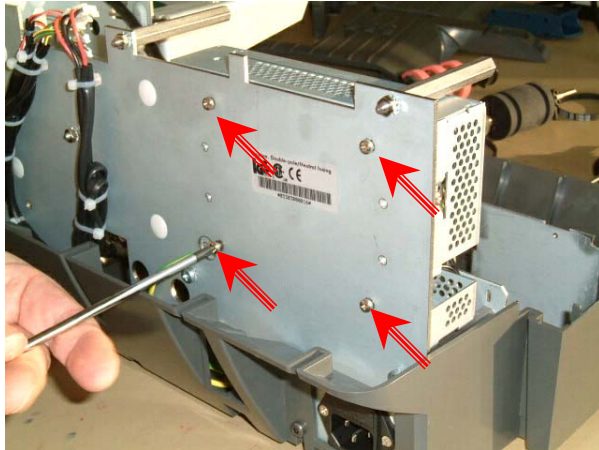

Fig.32
- Remove the 4 screws holding the power supply to the frame, by sliding it out and to the right. (Fig.32)